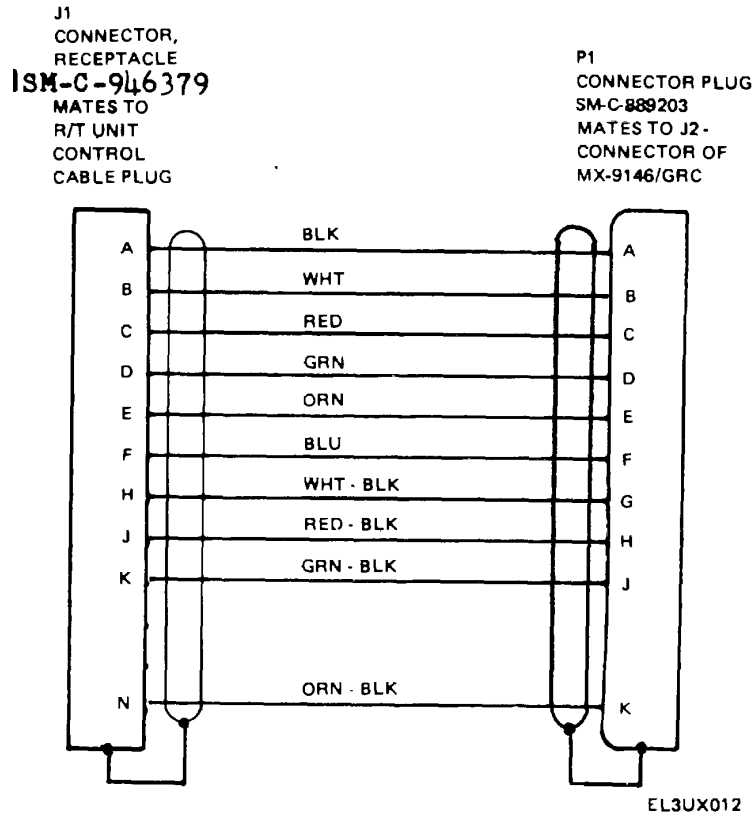

Figure 6-5. Cable Assembly, Special Purpose CX-13184/GRC, Schematic Diagram.
b. To test Cable Assembly, Special Purpose CX-13055 GRC, perform continuity checks per figure 6-5 using Multimeter TS-352B/U.